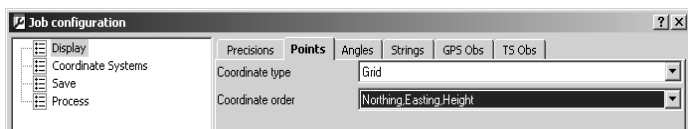

Figure 4-31. Job Configuration – Points Tab
6. On the *Job Configuration* dialog box, click **Display** and then the **Points** tab (Figure 4-31).